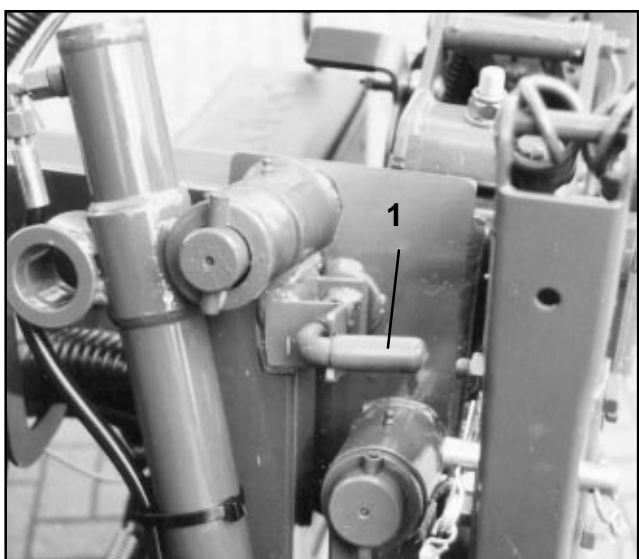

Fig. 7.4
- To **unlock**, tilt bolts (7.4/1) to the position shown in Fig 7.4.